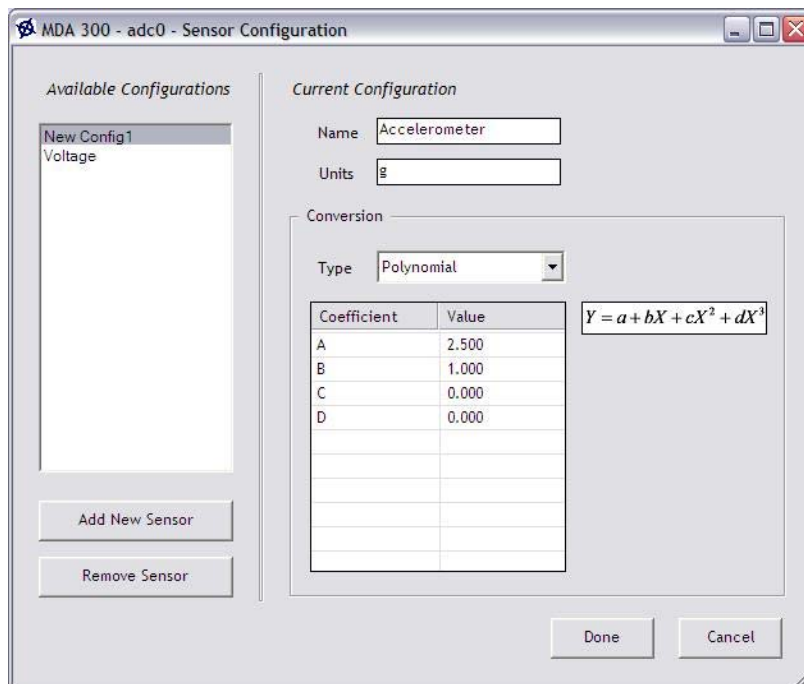

Figure 5-13. MDA300 Sensor Configuration using the Polynomial Conversion
- a. If you used **Polynomial** as the conversion type, then specify the Coefficient values (a, b, c and d) to convert from raw voltage (X) into engineering units (Y) as shown in Figure 5-13.